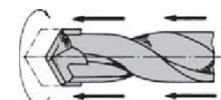

Figure 3: Drilling methods
1. **Rotary drilling:** (*Figure 3*) Drilling in rotation without impact for perforated blocks and construction materials with low strength so that the hole does not break out too large and / or the webs in the perforated blocks do not break.
2. **Impact drilling:** (*Figure 3*) Rotation and a high number of light impacts with the impact drilling machine, for solid building materials with dense structure.
3. **Hammer drilling:** (*Figure 3*) Rotation and a small number of impacts with high impact energy with the drilling hammer, also for solid building materials with dense structure.